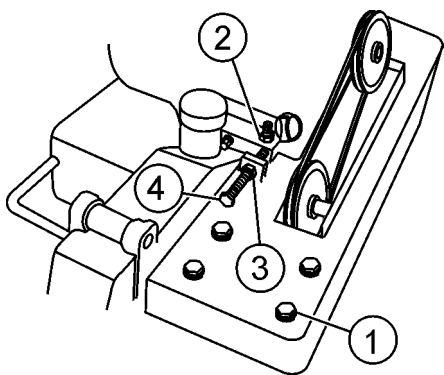

Figure 9. V-Belt Tension Adjust
- With V-belt guard removed, loosen the 4 engine mounting hex screws. (items 2 Figure 9)
- Loosen locking nut on the V-belt tension adjuster, (3).
- Tighten the adjusting hex screw (4) while holding the engine in place to maintain pulley alignment. (a screwdriver can be used as a lever at the rear belt guard mounting boss to hold the back of the engine while adjusting V-belt tension.)
- Re-tighten the locking nut (3).
- Loosen the 4 engine mounting hex screws. (item 2, Figure 9)
- Loosen locking nut on the V-belt tension adjuster (item 3, Figure 9). Loosen the tension on the V-belt by turning the tension adjuster hex screw (item 4, Figure 9).
- Loosen the 4 arbor shaft hex screws, (item 1, Figure 9).